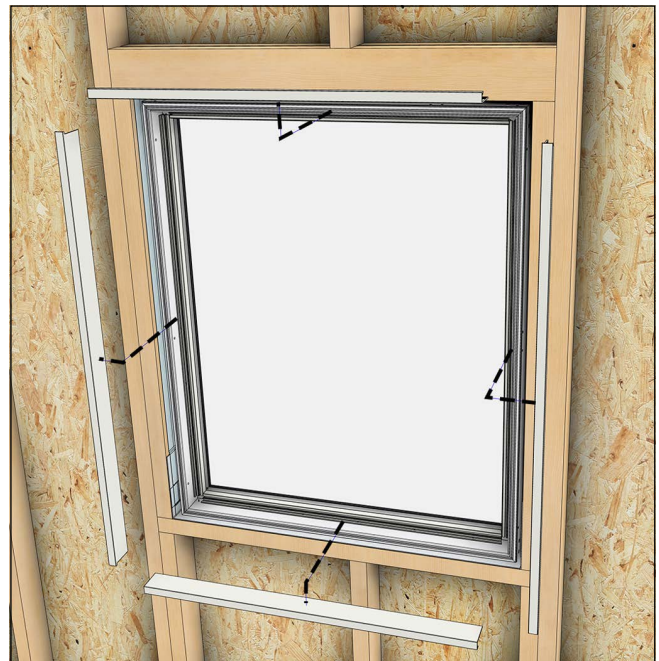

Figure 18
7. **Direct Glaze:** Replace covers. See Figure 18